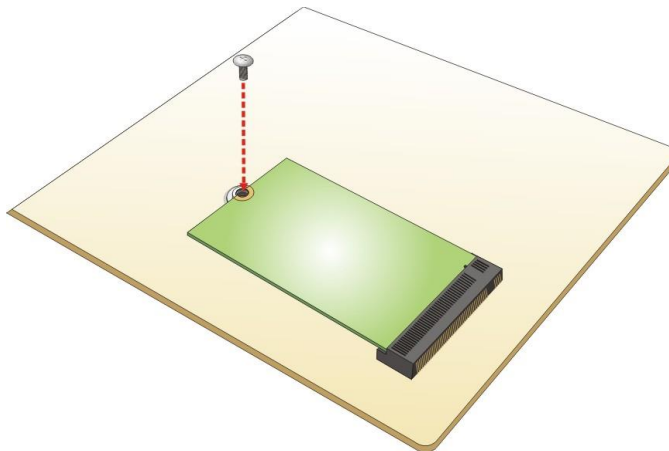

Figure 4-2: Securing the M.2 Module
- Step 4:** Secure the M.2 module with the previously removed retention screw (Figure 4-2).